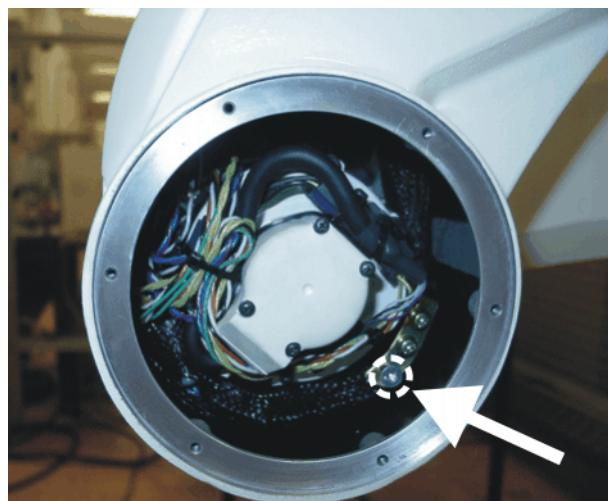

Fig. 11-14: Screw on A3
1. Remove the round motor cover on A3. Remove the screw shown (3 mm Allen key). (>>> Fig. 11-14)